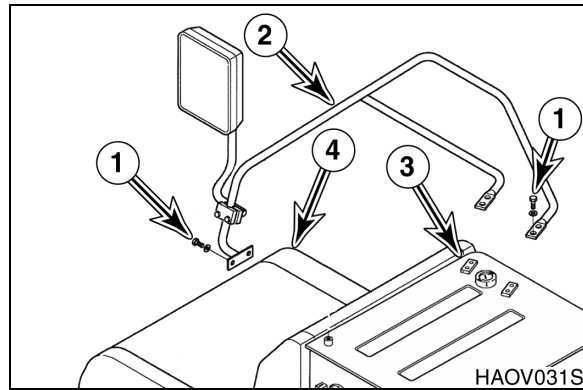

Figure 9
15. Remove six bolts and washers (1, Figure 9), and handrail (2) from fuel tank (3) and cover (4).